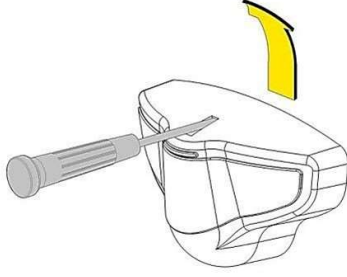

Figure 6.1 – Removal of the RDR Top Cover
- a) a) Remove the top cover of your device. (See also Installation Figure 6.1)